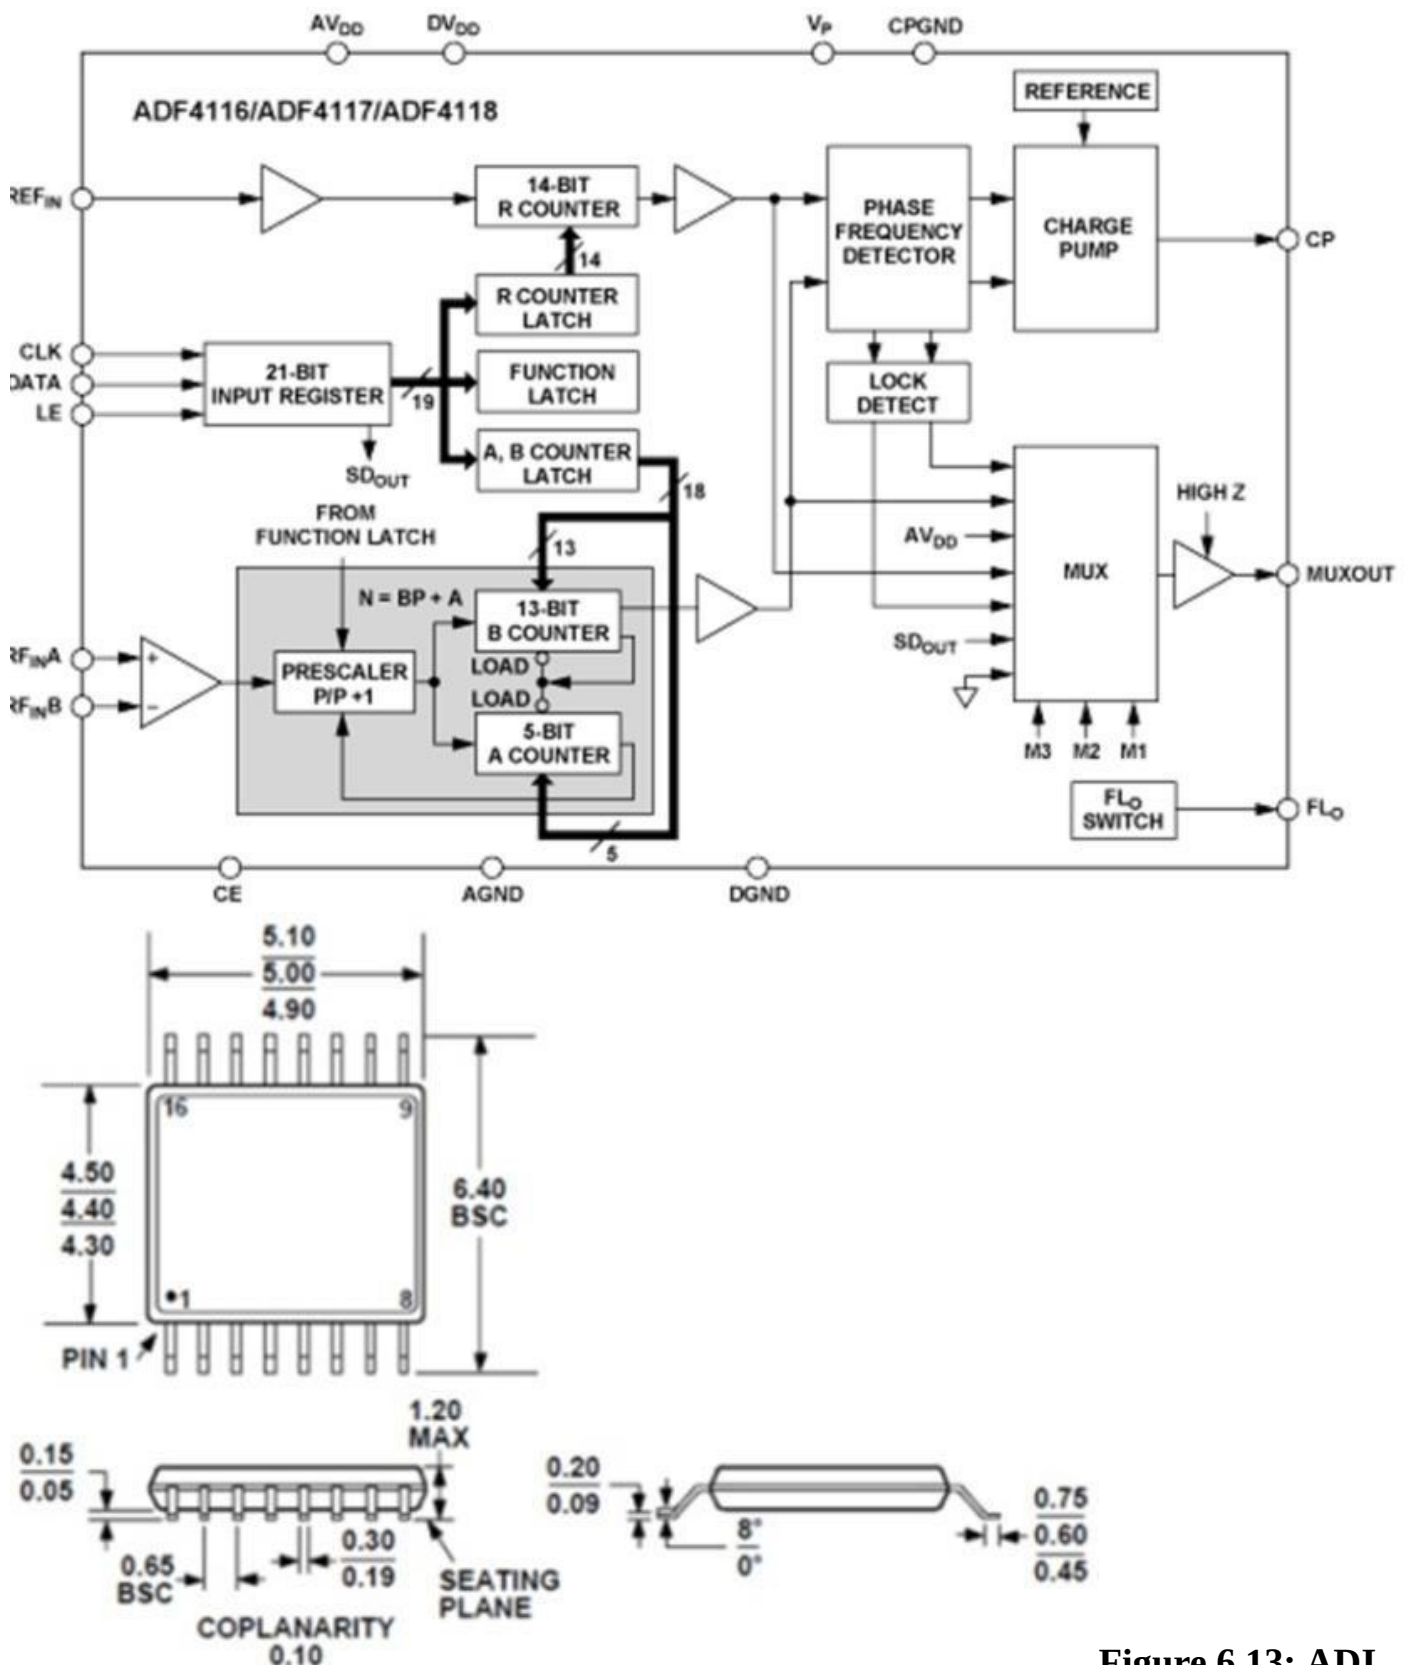

Figure 6.13: ADI
The number and variety of PLL parts is staggering. Analog companies offer series of PLL chips with a variety of functions. Figure 6.13 shows an Analog Devices PLL (ADF4116/4117/4118) functional block diagram, package outline, and dimensions. According to the datasheet, “The ADF411x family of frequency synthesizers can be used to implement local oscillators (LO) in the up-conversion and down-conversion sections of wireless transceivers. They consist of a low noise digital phase frequency detector (PFD), a precision charge pump, a programmable reference divider, programmable A and B counters, and a dual-modulus prescaler ($P / P + 1$)”. This PLL does not include VCO, which is external to the part.